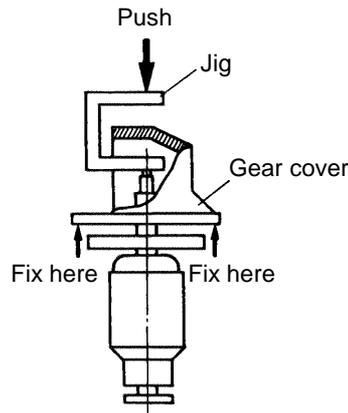

Fig. 2
Finally, as illustrated in Fig. 2, support the Gear Cover ③⑩ and use a U-shaped jig to push out the Armature Ass'y ④⑦.